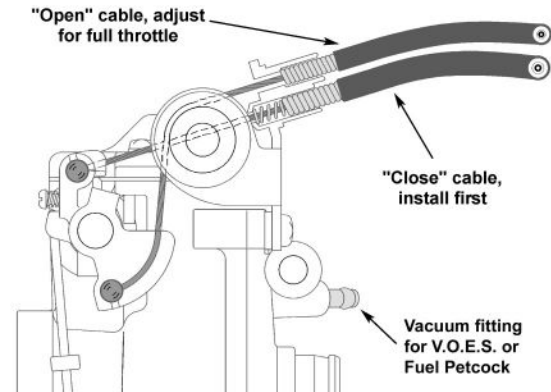

Figure 3: Cable installation guide
3. Connect the "close" cable first (see Figure 3).
4. Install the "open" cable next (see Figure 3).